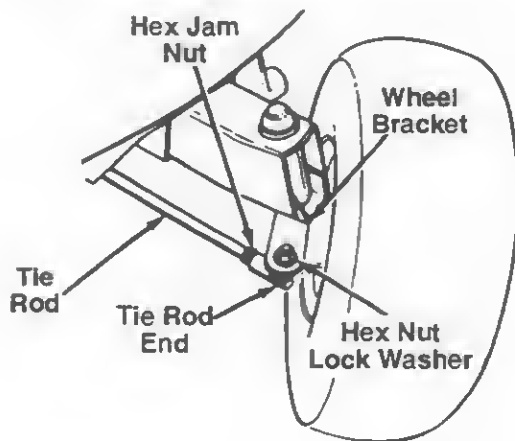

FIGURE 16.
1. Remove the hex nut and lock washer, and drop the end of the tie rod from the axle bracket. See figure 16.